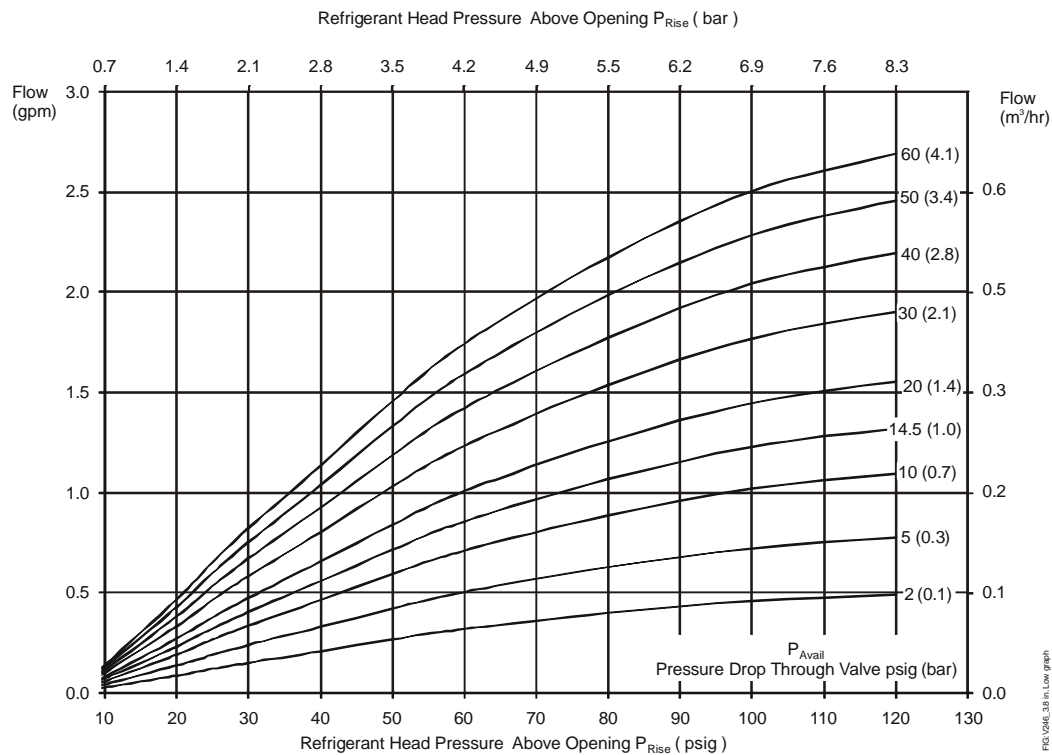
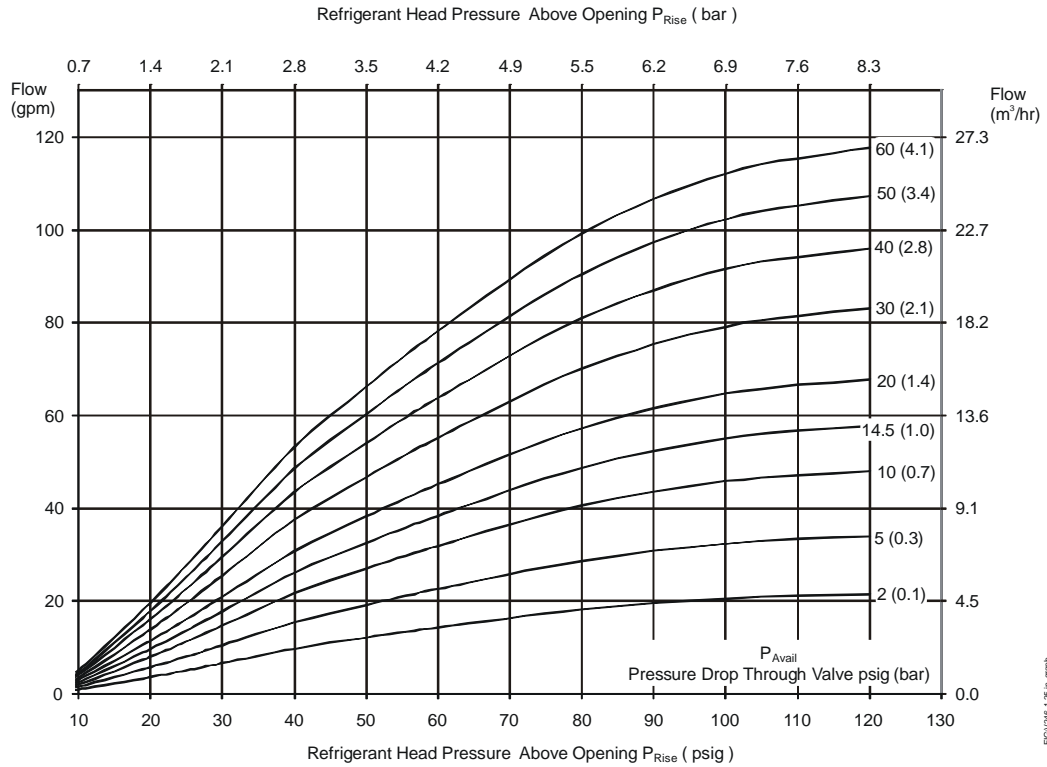

Figure 6: 3/8 in. Direct Acting Low-Flow Valve Flowchart
Figure 11: 1-1/4 in. Direct Acting Valve Flowchart
To make a rough field estimate of the size of valve for an application, find the valve size needed by locating a point on a flow chart (see Figure 6 through Figure 11) that satisfies these requirements:
Follow these steps, and use the information obtained to locate a point on one of the flowcharts (see Figure 6 through Figure 11) that satisfies all three steps.
4. Using the following data and the flowcharts, the only valve that comes close to meeting all the criteria (without being oversized) is a 1-1/4 in. valve (see Figure 11):